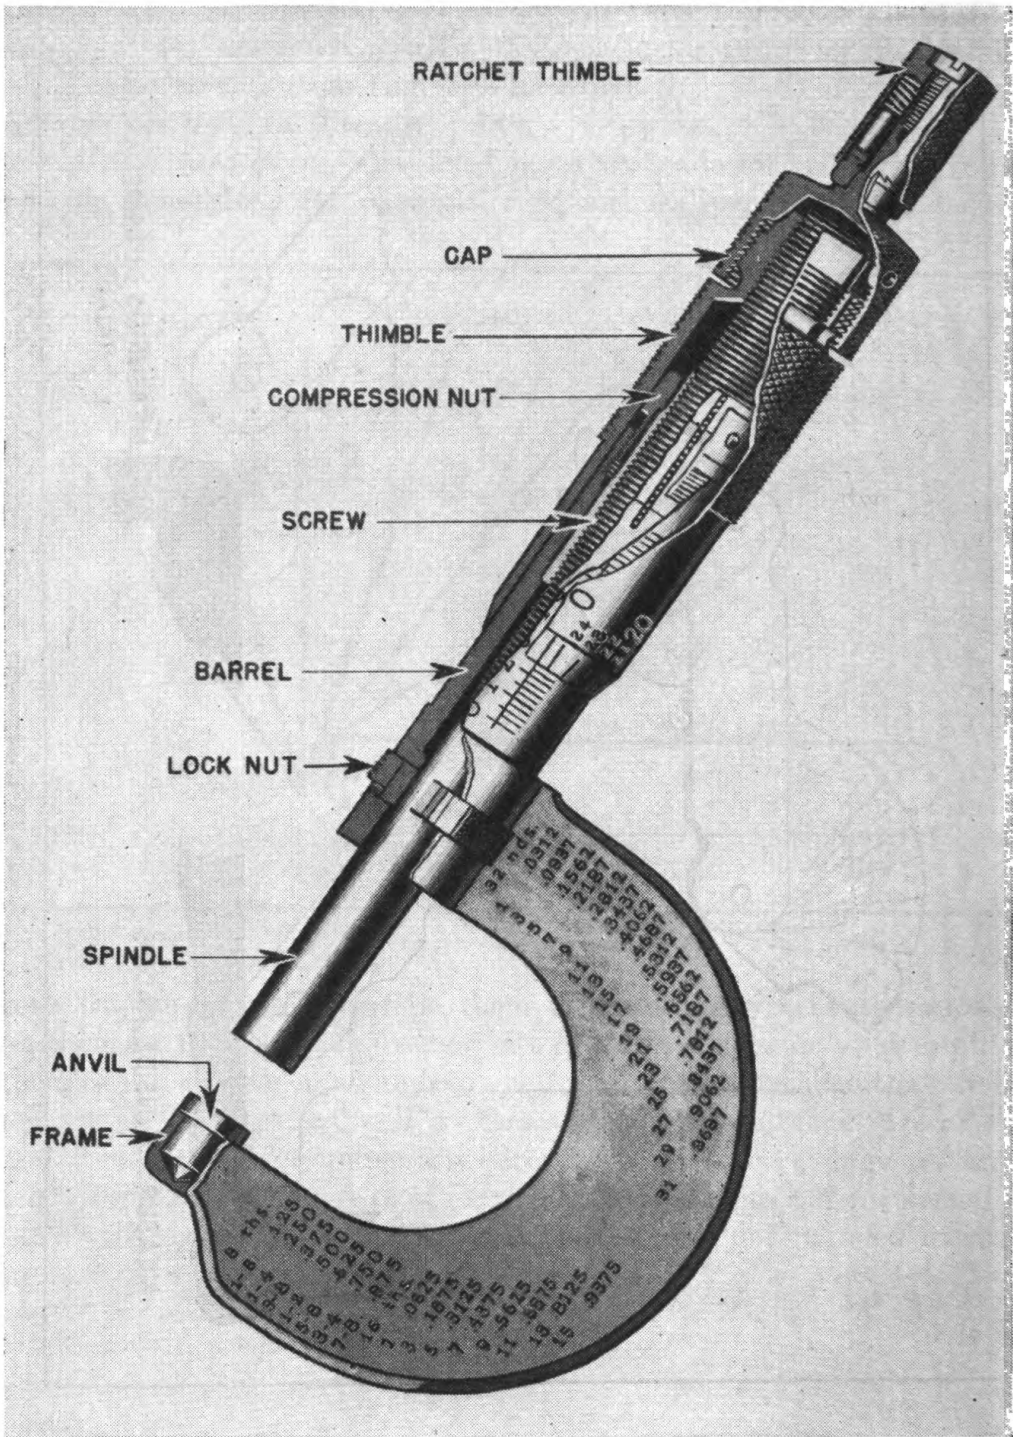
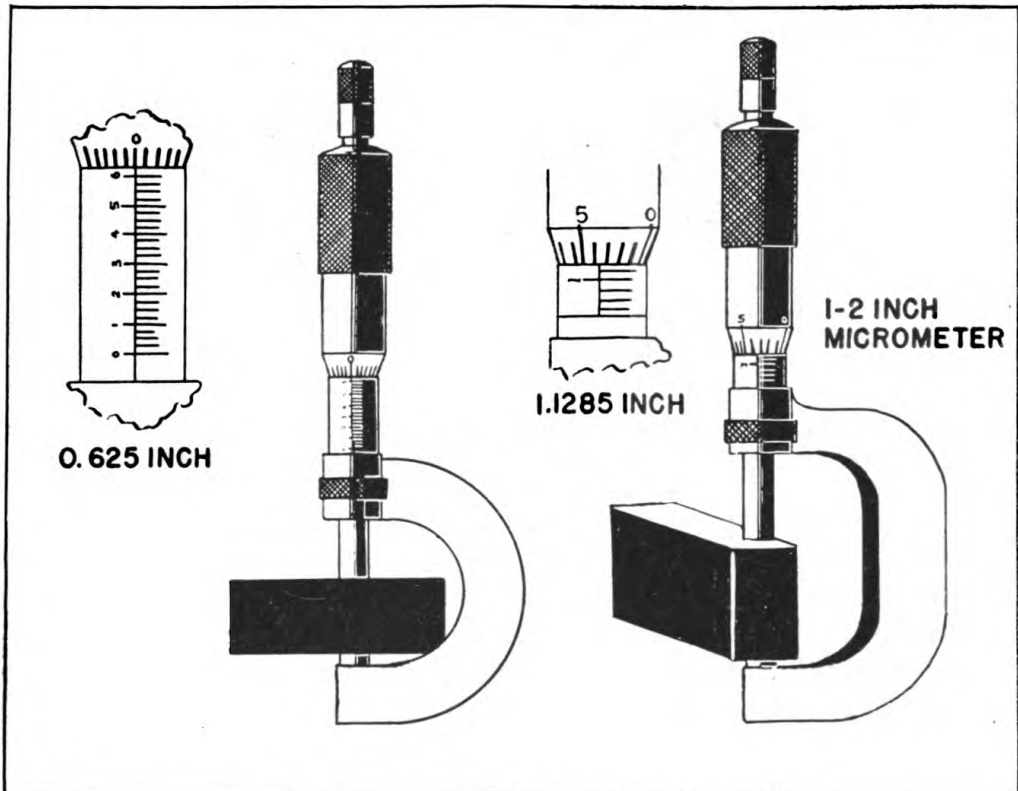

FIGURE 96.—Sectional view of outside micrometer.
FIGURE 103.—Measuring flat surfaces with outside micrometer.
28. Micrometer calipers.—*a. General.*—The micrometer is the most commonly used adjustable gage, and it is important that the mechanic understand thoroughly its mechanical principles, construction, use, and care. Figure 96 shows a 1-inch outside micrometer caliper with the various parts clearly indicated. Before making any attempt to use the tool, the mechanic should become familiar with its nomenclature, especially the frame, anvil, spindle, barrel (or sleeve), screw, and thimble. Micrometers are generally intended to measure distances to one ten-thousandth of an inch; the measurement is usually expressed or written as a decimal, so the mechanic should also know the method of writing and reading decimals.
31. Using micrometers.—*a. Measuring flat surfaces.*—Figure 103 shows two uses of the outside micrometer in measuring the distance between two flat surfaces. The mechanic should first of all select the right sized micrometer for the work (in the first case a 0-1 inch size, as the work is less than 1 inch across). The micrometer should be opened far enough to slip over the work freely; then, the micrometer being held in the left hand, the sleeve is turned clockwise until the spindle and anvil lightly touch the work. A very light pressure only is required; if the tool is turned up too tight on the work, the frame will almost surely be sprung out of shape and the reading will be inaccurate. Most micrometers are equipped with a ratchet stop (fig. 96) on the end of the sleeve, which prevents the operator from closing the tool too tightly on the work. This ratchet stop is so made that it will slip and click when a certain amount of pressure is applied to it, and so prevent the spindle from moving
farther. If the micrometer being used is fitted with a ratchet stop, it is recommended that the operator make use of it to avoid damaging the micrometer. Finally, take the reading of the micrometer while it is still on the work. The enlarged view at the left in figure 103 shows the reading of the micrometer, which is 0.625 inch, arrived at by the method previously outlined: